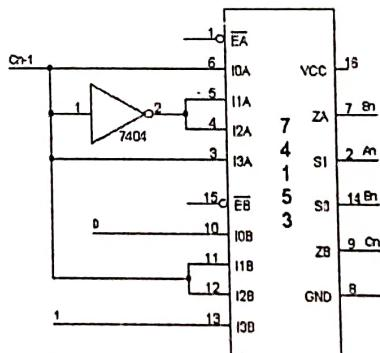

Figure 3: Connection diagram of Full Adder using 74153
MUX map for SUM is implemented in A part of MUX IC & MUX map for Carry is implemented in B part of MUX IC, A & B are select lines as indicated in Figure 3:
4. Data line inputs for FA: Make use of 7404 and create input connections to MUX-A and MUX-B part of IC-74153 as shown in Figure 3